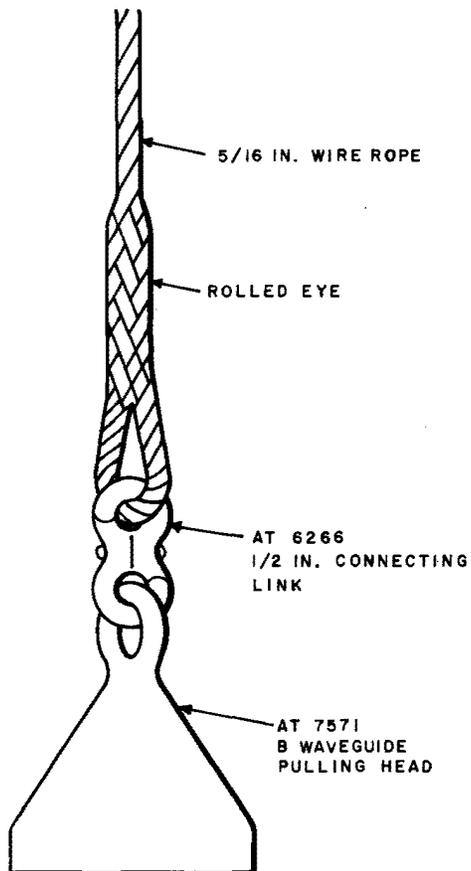

Fig. 2—Attachment of Winch Line to Pulling Head
2.10 Attach the waveguide pulling head to the winch line using a 1/2-inch connecting link as shown in Fig. 2.